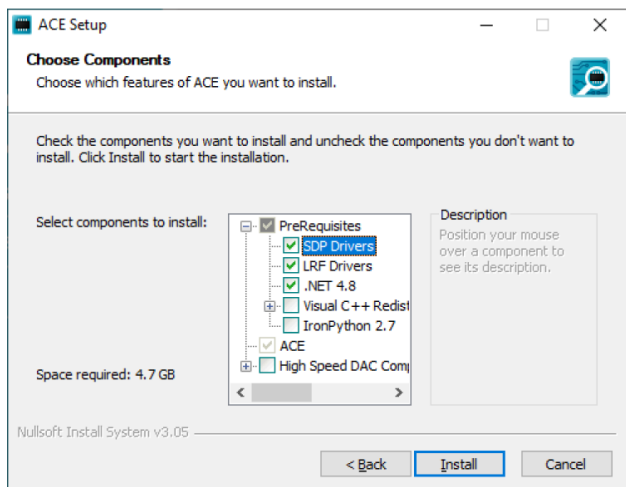

Figure 5. Drivers That Must Be Installed with the ACE Software
3. Install the latest version of the ACE software by following the instructions on the ACE software page. During installation, ensure that the **SDP Drivers**, **LRF Drivers**, and **.NET 4.8 Drivers** boxes are checked of under the **Select components to install:** window as well (see Figure 5).